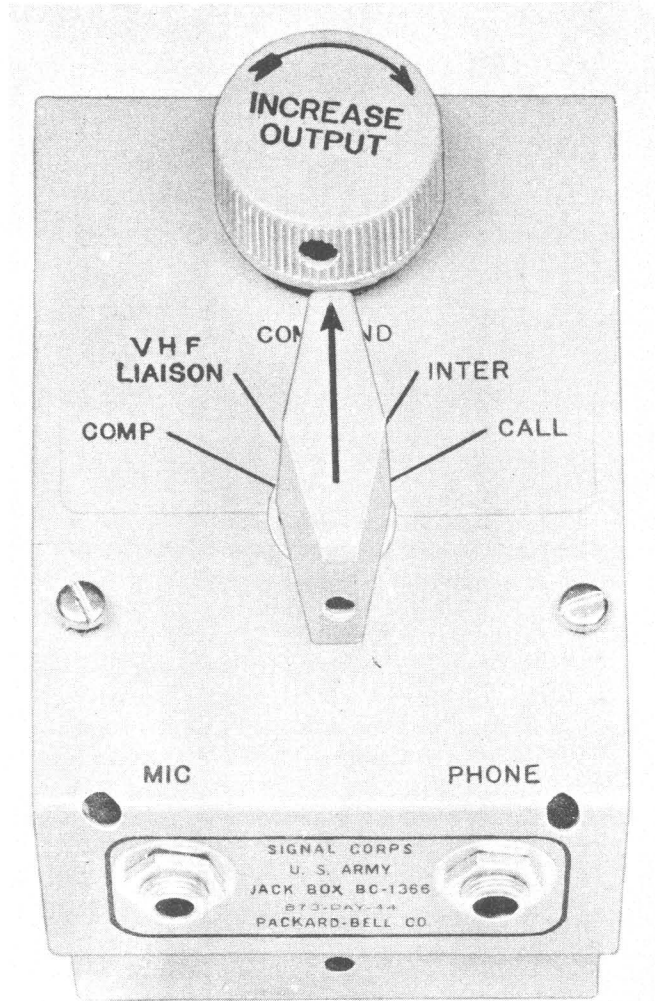

Figure 1-6. Jack Box BC-1366—Exterior Top Diagonal View
e. JACK BOX BC-1366.—Jack Box BC-1366 consists of a 5-position rotary switch, a variable resistor, a headset jack, a microphone jack, and plug and jack terminal plates, all housed in an aluminum box. (See fig. 1-6.)